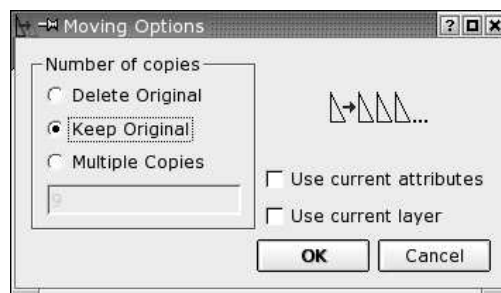

Figure 52: Move options dialog.
5. The move dialog is displayed (Figure 52). To move the entities, choose "Delete Original", to copy them choose "Keep Original". Finally you can create a number of copies at once, by choosing "Multiple Copies" and entering the number of copies in the text line below. Note that '9' will create 9 copies and keep the original - so there will be 10 instances of the entities in the end. The copies will have the same attributes and be on the same layer as the original entities. To change that default behavior, you can tick "Use current attributes" or "Use current layer".